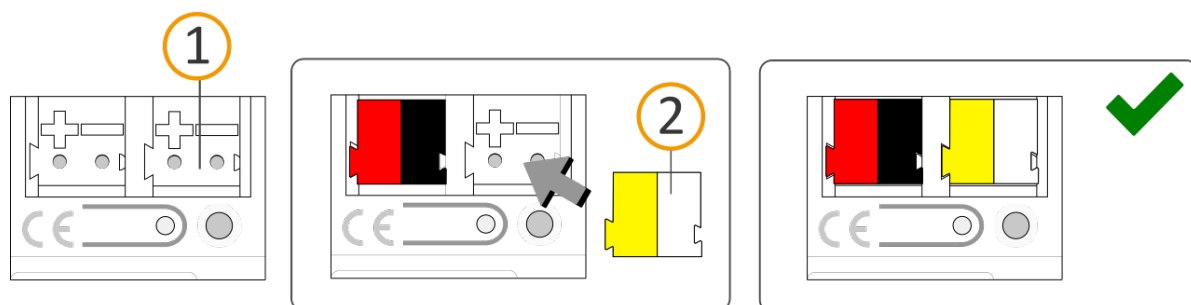

Figure 11: Connect the power supply
3. Connect the external power supply to the power supply terminal (see figure 11, item 1) by means of the supplied power connection terminal (see figure 11, item 2). Polarity: left/yellow: "+", right/white: "-".
- a. Attach the power connection terminal (see figure 11, item 2).